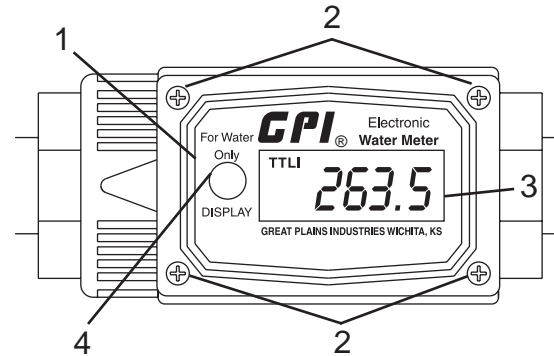

Figure 116
6. Activate the display by briefly pressing the DISPLAY button (Figure 116, Item 4).
7. Check the display (Figure 116, Item 3) to verify that it is operating normally. Re-seat the batteries if needed.
8. Install the meter faceplate (Figure 116, Item 1) on the meter body with four screws (Figure 116, Item 2).